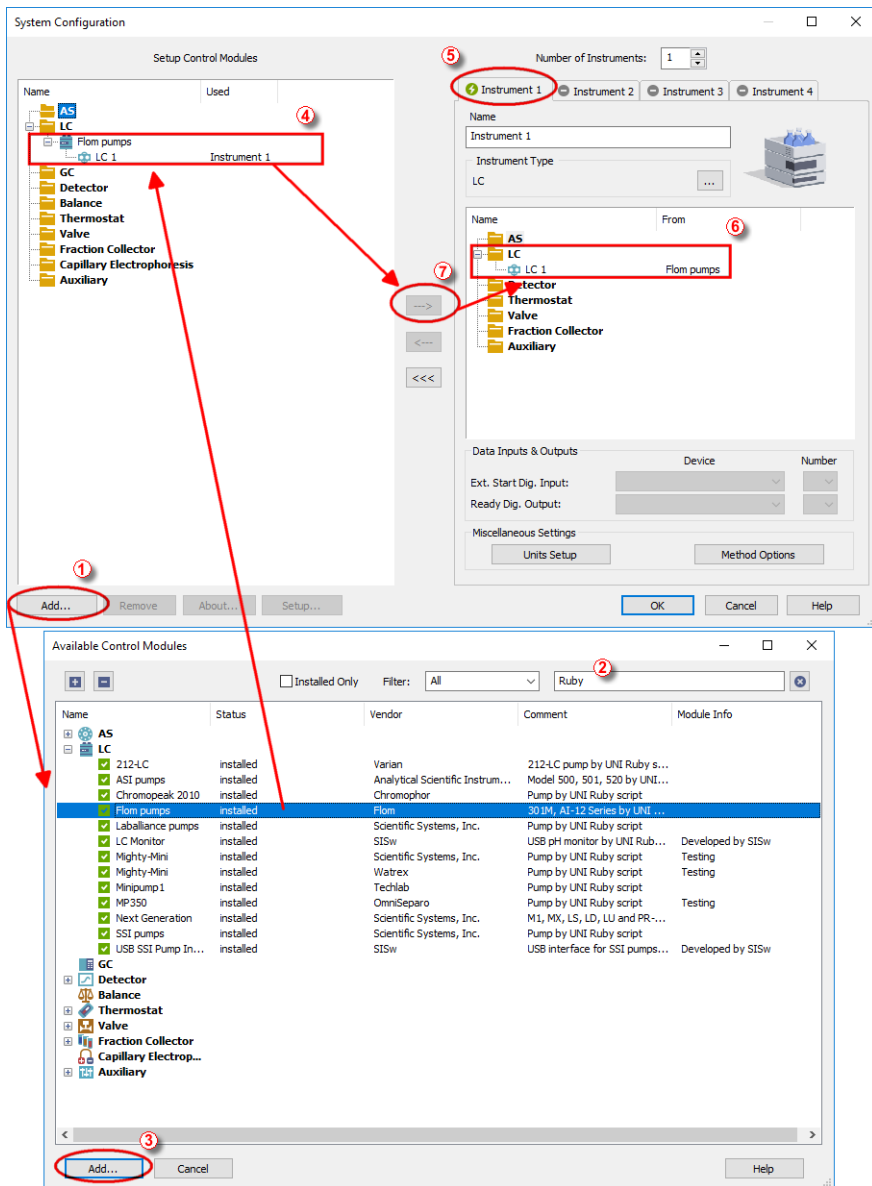

Fig 3: How to Add Flom pumps module
- Press the **Add** button (① on **Fig 3** on pg 4.) to invoke the **Available Control Modules** dialog.
- You can specify the search filter (②) to simplify the finding of the driver.
- Select the correct item and press the **Add** (③ on **Fig 3** on pg 4.) button. Each device with already created UNI profile should have its own item named accordingly in the **Available Control Modules** dialog.